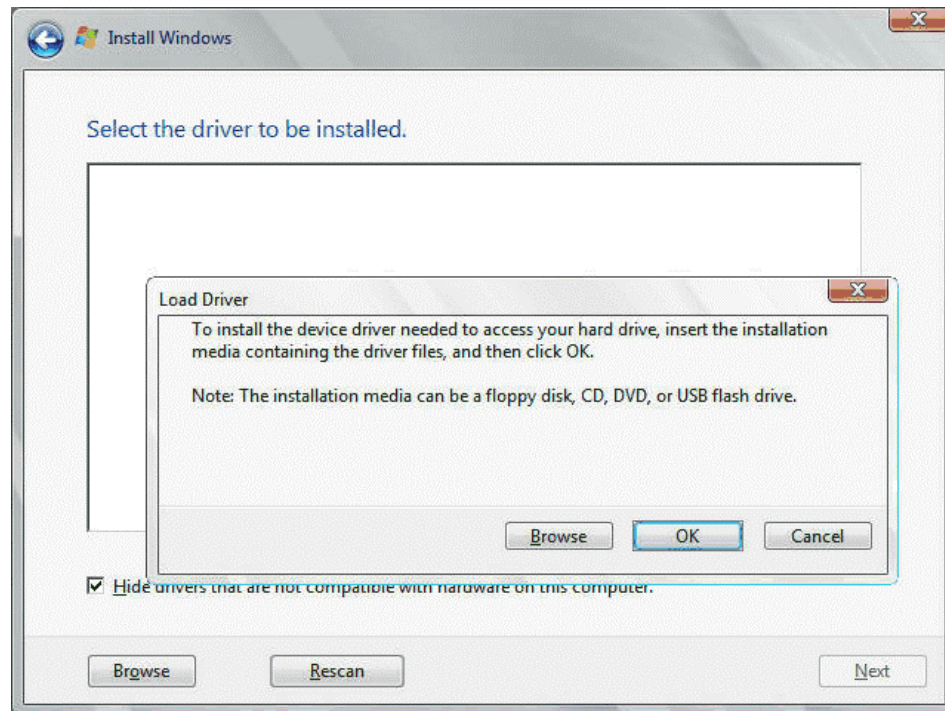

Figure 2-80 Missing HBA Driver
1. During the OS installation, if Windows 2008 R2 SP1 Standard does not recognize the HBA, it will not present the drive. Click **Load Driver** from the Windows installation panel, as shown in Figure 2-80, to load the appropriate HBA drivers. You need to check if your adapter is in the Windows 2008 R2 SP1 default list, or go to the HBA support website for the correct drivers.